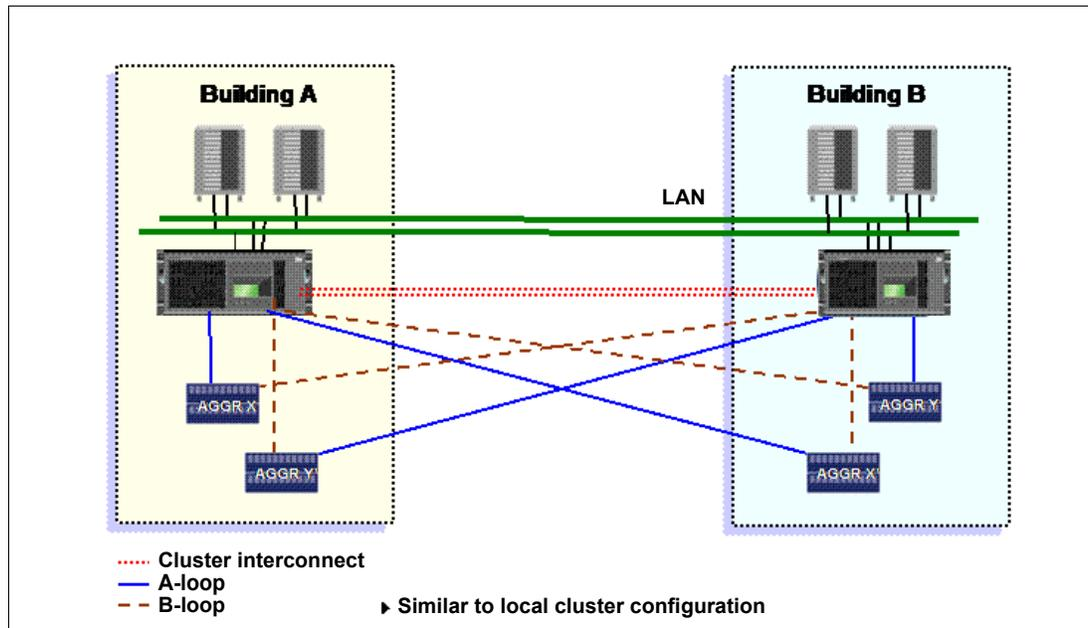

Figure 3-6 MetroCluster less than 500 meters
- ▶ It provides a disaster recovery option at distances up to 500 meters (depending on speed and cable type) between each N series system. See Figure 3-6.